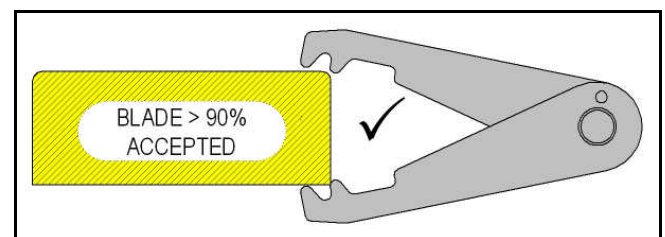

Fig. 3 Accepted when the lower jaws restrict the blade flank
- 3) **Check the blade** at the heel of the forkarm by passing the “set” Caliper over the flanks of the blade, Figure 3 or Figure 4.
The forkarm is accepted when the lower jaws of the Caliper are restricted from passing over the flank of the blade, Figure 3. This means the blade has worn less than 10% of the original thickness.